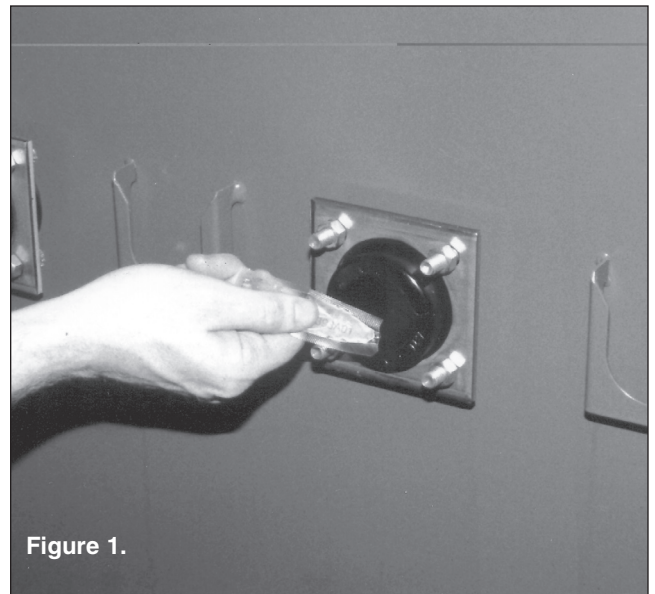

Figure 1.
- Clean bushing well and apply a thin uniform coating of silicone lubricant. (See Figure 1.)